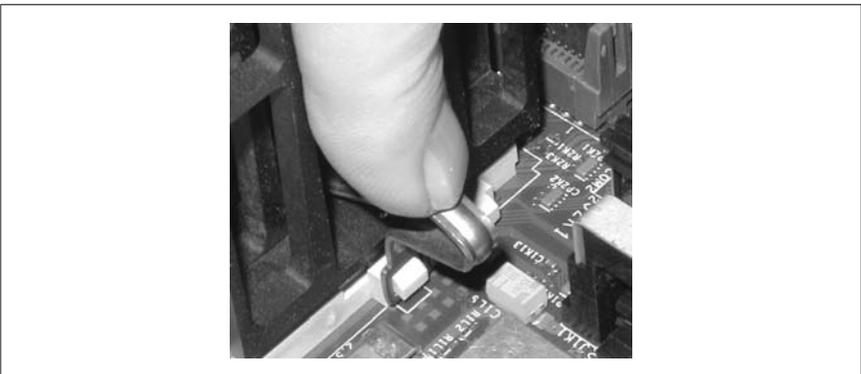

Figure 4-16. Attaching the heatsink securely using the locking clips
5. If you did not previously install the cooling device, do so now. Don't forget to use thermal compound to improve heat transfer between the processor and the cooling device. Most heatsinks and heatsink/fan units clip directly to the processor or to the socket. Once you have the heatsink aligned properly with the processor (most fit properly in only one orientation) align the clip and press down until it locks into place, as shown in Figure 4-16. If your cooling unit includes a fan, attach the fan power cable to a motherboard fan power header or to an available power supply connector, as appropriate.